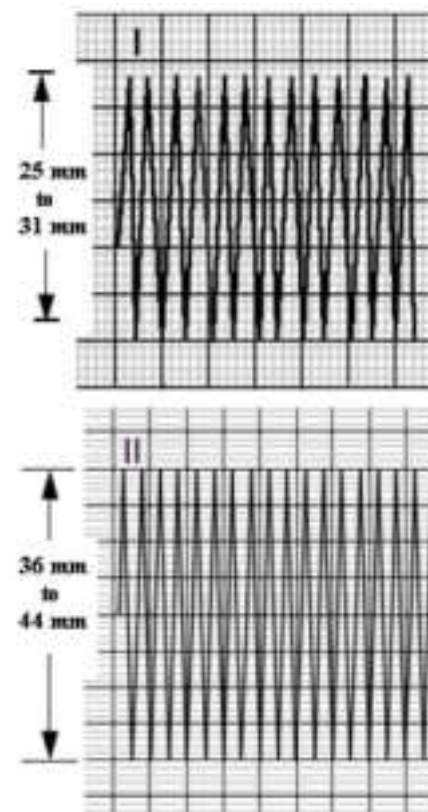

Figure 1.36—Signal amplitude for 5-lead gain test
4. Print five seconds of ECG Lead I, and confirm the printed signal amplitude is 25 mm to 31 mm, peak-to-peak, as shown in Figure 1.36.